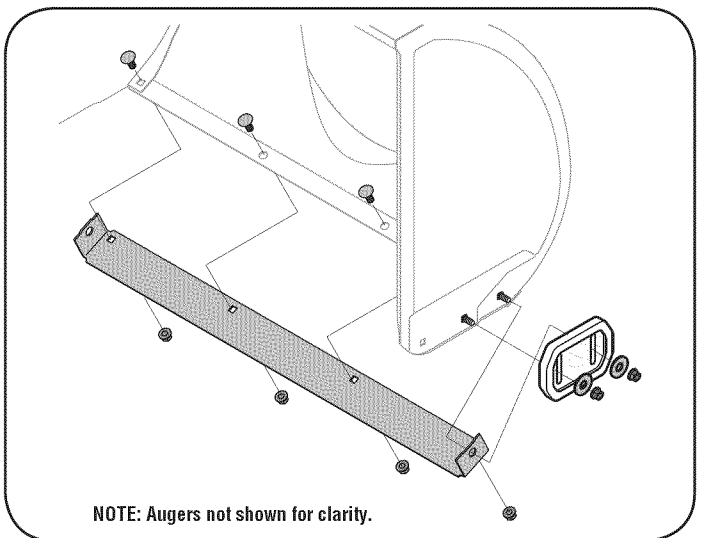

Figure 18
2. Reassemble new skid shoes with the four carriage bolts (two on each side), washers, and hex flange nuts. Refer to Figure 18.
2. Reassemble new shave plate, making sure heads of carriage bolts are to the inside of housing. Tighten securely. See Figure 18.